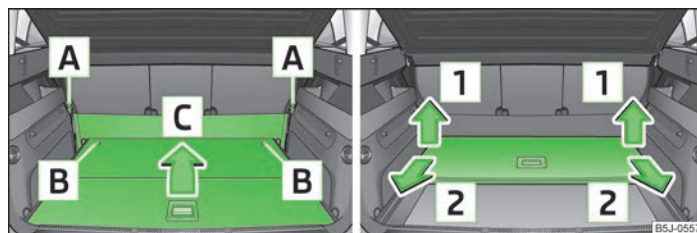

Fig. 50 Fold up variable loading floor/remove
- › Unhook the loops **A** » Fig. 50 of the elastic partition out of the fixing points.
- › Lock the variable loading floor by turning the locking bolts **B** » Fig. 50 to the right by around 180°.